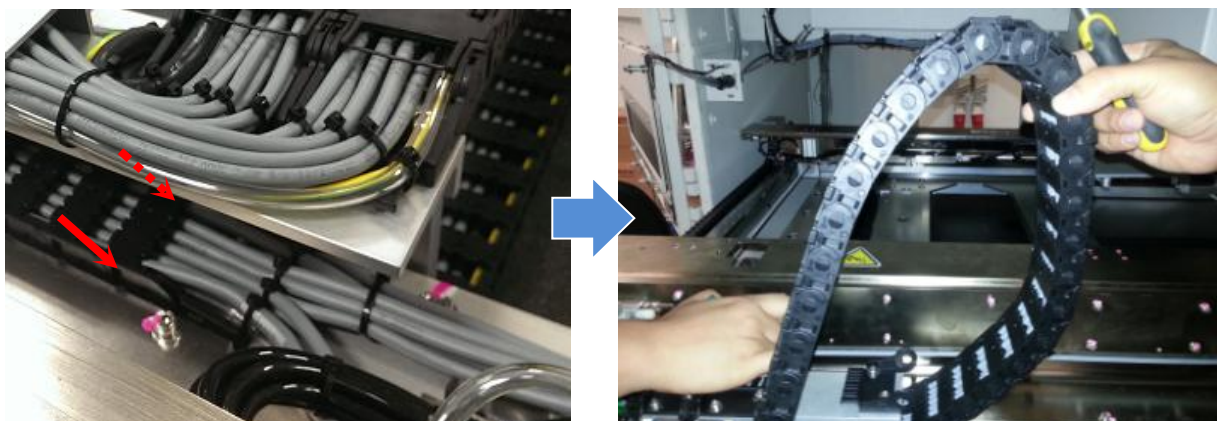

Figure 14 X Axis End Joint Removal
18. Use flat head screwdriver to open V810 S2EX X-AXIS E-CHAIN (P/N, 4JAXYS-A117) end joint (top and bottom) as below Figure 14